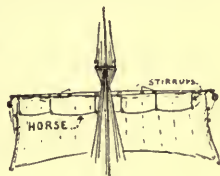

FIG. 1.
**Horse.**—1. In square rigged vessels, a rope for the support of a man. (A)—The rope running beneath a yard upon which the men stand while furling is a horse, and is attached to the yard by short ropes called *stirrups*. (*See* fig. 1.) The outer portion of the horse is called the *flemish-horse*. (B)—A rope stretched from the cap of a bowsprit or jib-boom to the *knight-heads* for the safety of men working on the bowsprit. (C)—A breast-rope over which a man may lean, while heaving the lead.